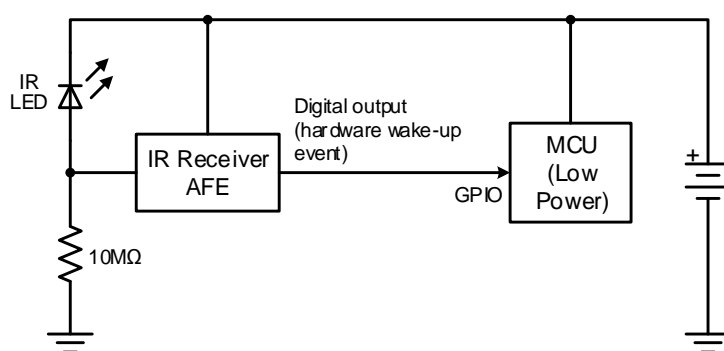

Figure 17. Low-Side Current Sensing Circuit
Infrared (IR) communication is inherently immune to RF interference as long as there is a line-of-sight path between the transmitter and the receiver. It is also one of the lowest cost communication schemes. This makes it a good choice for implementing wireless communications in applications such as utility metering. A common system topology to extend battery life is to use a power efficient IR receiver analog front end (AFE) that is always on and wakes up the host only when there is a valid IR signal detected as shown in Figure 17.
Figure 17 shows the IR receiver system block diagram. The host MCU is normally in the shutdown mode (during which the quiescent current is less than 1μA) except when data is being transferred.